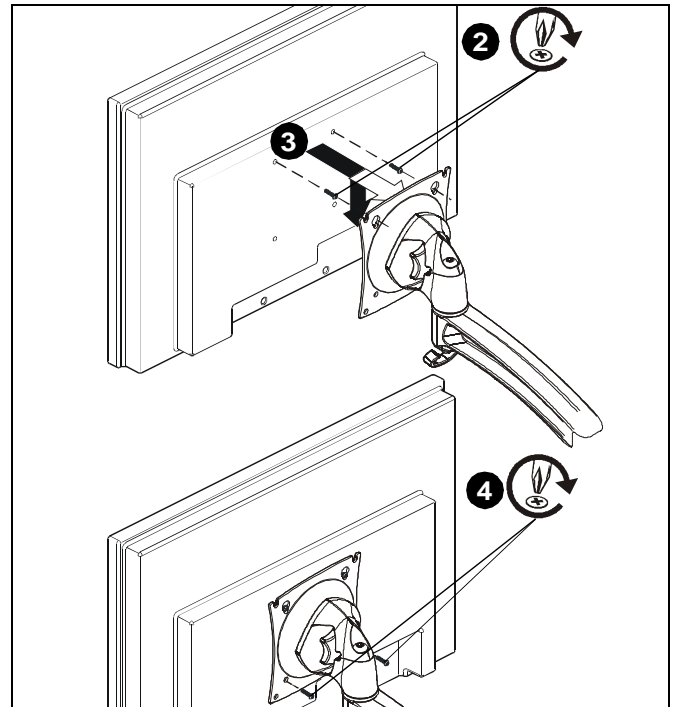

Figure 3
1. Ensure faceplate is able to swivel and tilt easily, yet still be tight enough to hold display in desired position. Adjust as required before proceeding. See "ADJUSTMENT" for detail. (See Figure 3)
2. Using Phillips screwdriver, carefully install two M4x14mm screws (B) into the *upper* mounting holes on the display. Thread screws completely into display, then back out 3 complete turns. (See Figure 3)
3. Pick up and align display so that screws (B) (installed on the back of the display in the previous step) fit into the mounting holes on the faceplate. Rotate the bracket as required. Lower the display firmly into place. (See Figure 3)
4. Using Phillips screwdriver, install two remaining M4x14mm Phillips screws (B) through the *lower* mounting holes in faceplate into the display. (See Figure 3)
5. Tighten all four screws (B). Do not overtighten!